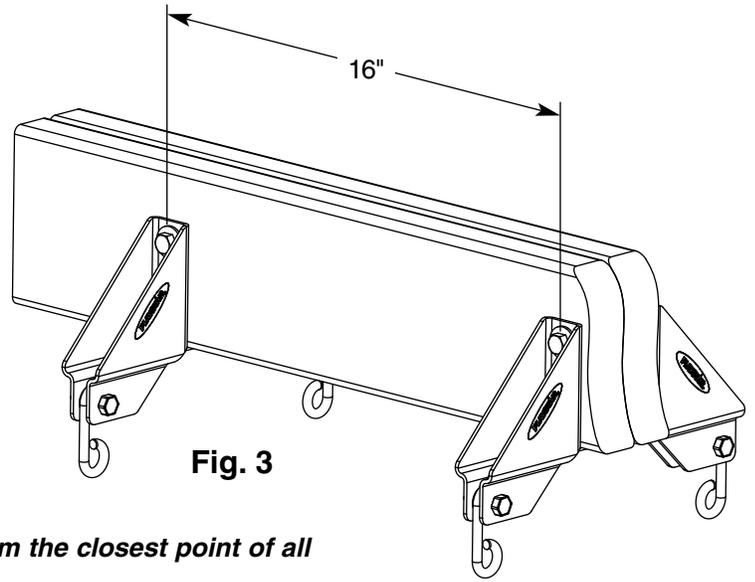

Fig. 3
4. Mark over 16" from center of bolts. Repeat Steps 1 through 3 for the second assembly. (Fig. 3)